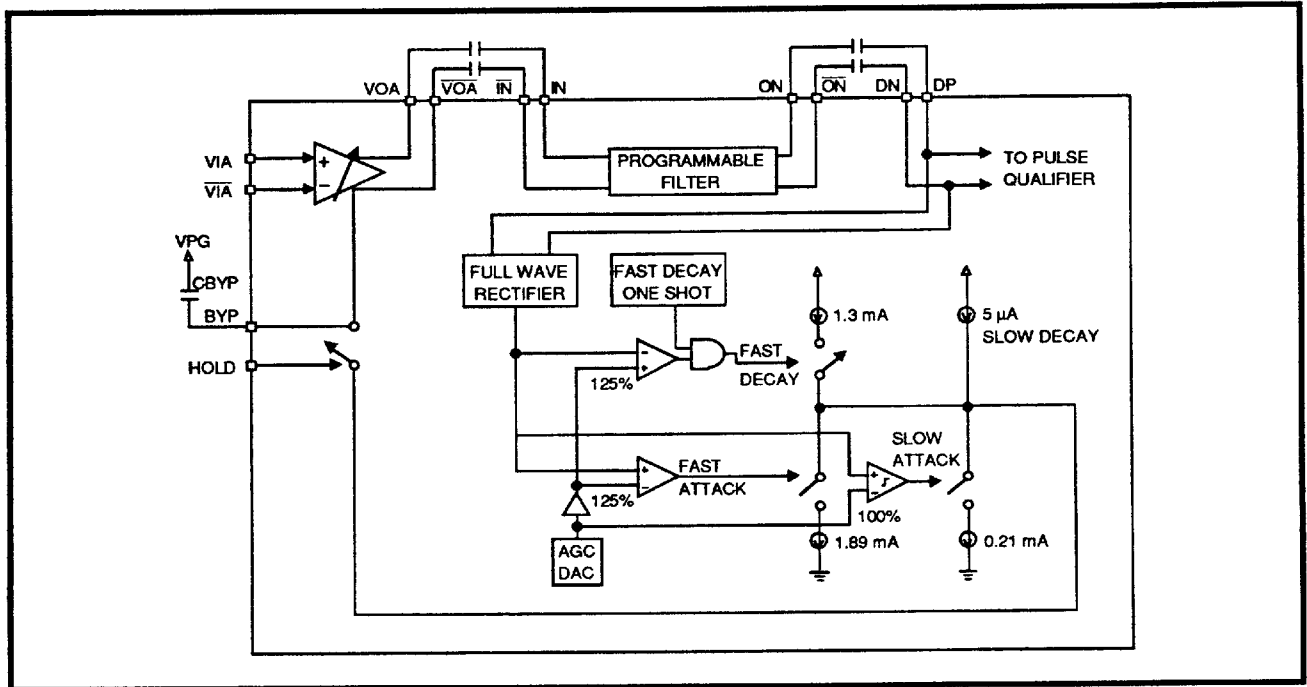

FIGURE 1: AGC Block
The gain of the AGC amplifier is controlled by the voltage ( $V_{BYP}$ ) stored on the BYP hold capacitor ( $C_{BYP}$ ), Figure 1. A dual rate charge pump drives  $C_{BYP}$  with currents that depend on the instantaneous differential voltage at the DP/DN pins. Attack currents lower  $V_{BYP}$  which reduces the amplifier gain, while decay currents increase  $V_{BYP}$  which increases the amplifier gain. When the signal at DP/DN is greater than 100% of the programmed AGC level, the nominal attack current of 0.21 mA is used to reduce the amplifier gain. If the signal is greater than 125% of the programmed AGC level, a fast attack current of nine (9) times nominal is used to reduce the gain. This dual rate approach allows AGC gain to be quickly decreased when it is too high yet minimizes distortion when the proper AGC level has been acquired.